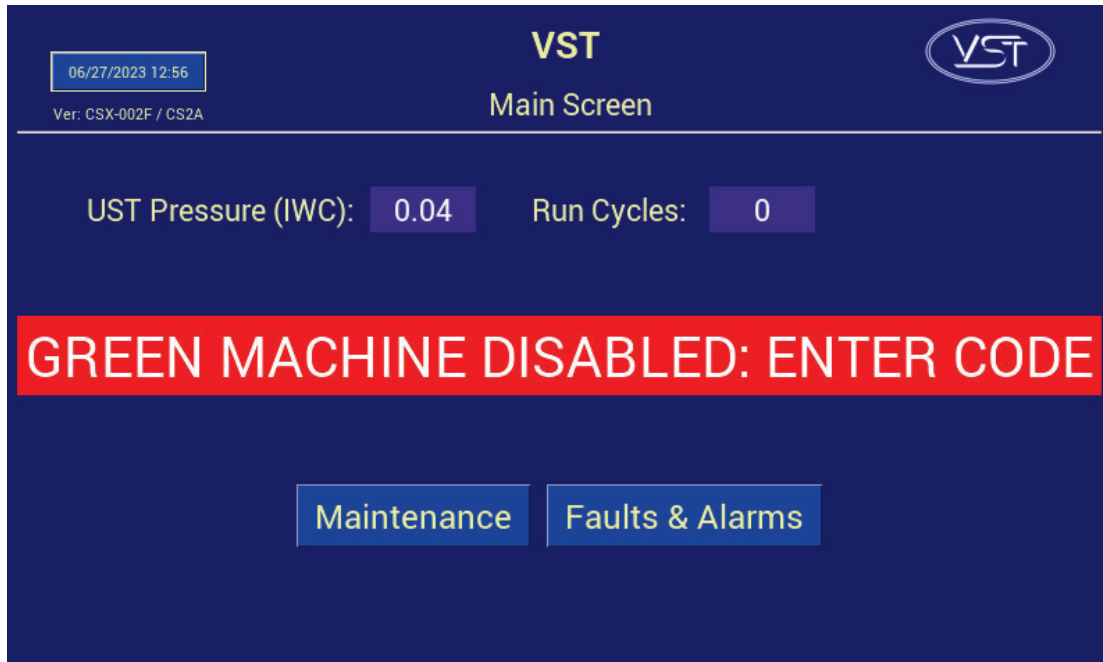

Figure 3-1: Main Screen with GREEN MACHINE DISABLED: ENTER CODE
- After the Control Panel is installed and power applied to the panel, **Figure 3-1** shows the Main Screen with the GM DISABLED – ENTER CODE label, which will be discussed later in this Chapter.
After power is turned ON to the VST Control Panel (See Figure 3-1), the Main Screen will show **GREEN MACHINE DISABLED – ENTER CODE**. This means:
4. **See Figure 3-1:** VST Control Panel PLC Main Screen – GM Disabled – Enter CODE Main Screen